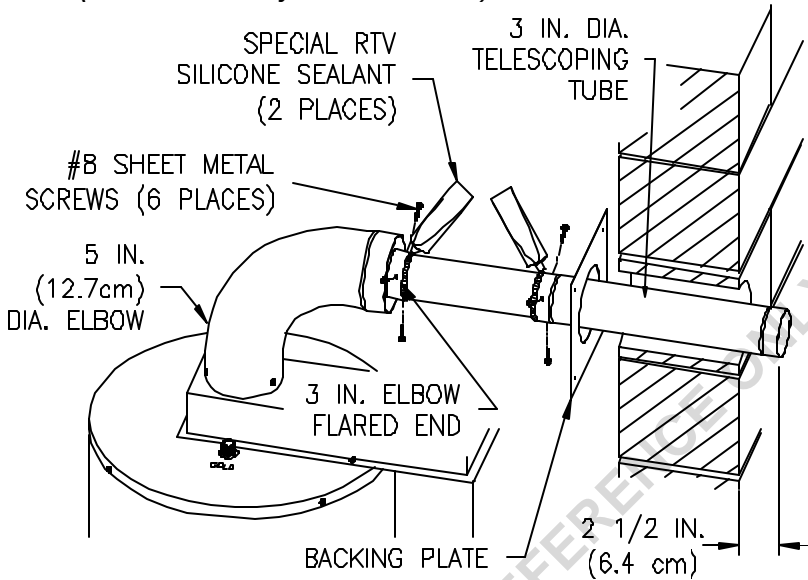

Figure 10
7. Extend the three (3) inch (7.6 cm) diameter telescopic tube to its maximum length and slide the backing plate over it. Place the large end of the three (3) inch (7.6 cm) diameter telescopic tube through the hole in the outside wall. Insert the smaller end of the three (3) inch (7.6 cm) diameter telescopic tube into the flared end of the three (3) inch (7.6 cm) diameter elbow, one (1) inch (2.5 cm) (or until seated). Drill three (3) 1/8 inch diameter holes, 120° apart, through the three (3) inch (7.6 cm) diameter elbow into the three (3) inch (7.6 cm) diameter telescopic tube. Fasten with three (3) #8 sheet metal screws (supplied). Adjust the overall length of the three (3) inch (7.6 cm) diameter telescopic tube so that 2-1/2 inches (6.4 cm) extends beyond the outside wall. Drill three (3) 1/8 inch diameter holes, 120° apart, through the three (3) inch (7.6 cm) diameter telescopic tubes where the small and large sections overlap. Fasten with three (3) #8 sheet metal screws (supplied). Using the supplied special RTV silicone sealant, apply a sufficient amount to seal the joints (See Figure 10).